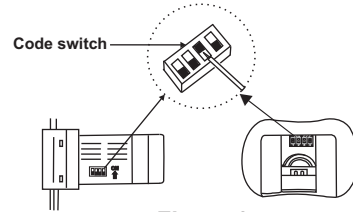

Figure 9
**NOTE:** This remote control unit is equipped with 16 code combinations to prevent possible interference from or to other remote units. The frequency switches on your receiver and transmitter have been preset at the factory. Please recheck to make sure the switches on transmitter and receiver are set to the same position. (Figure 9)